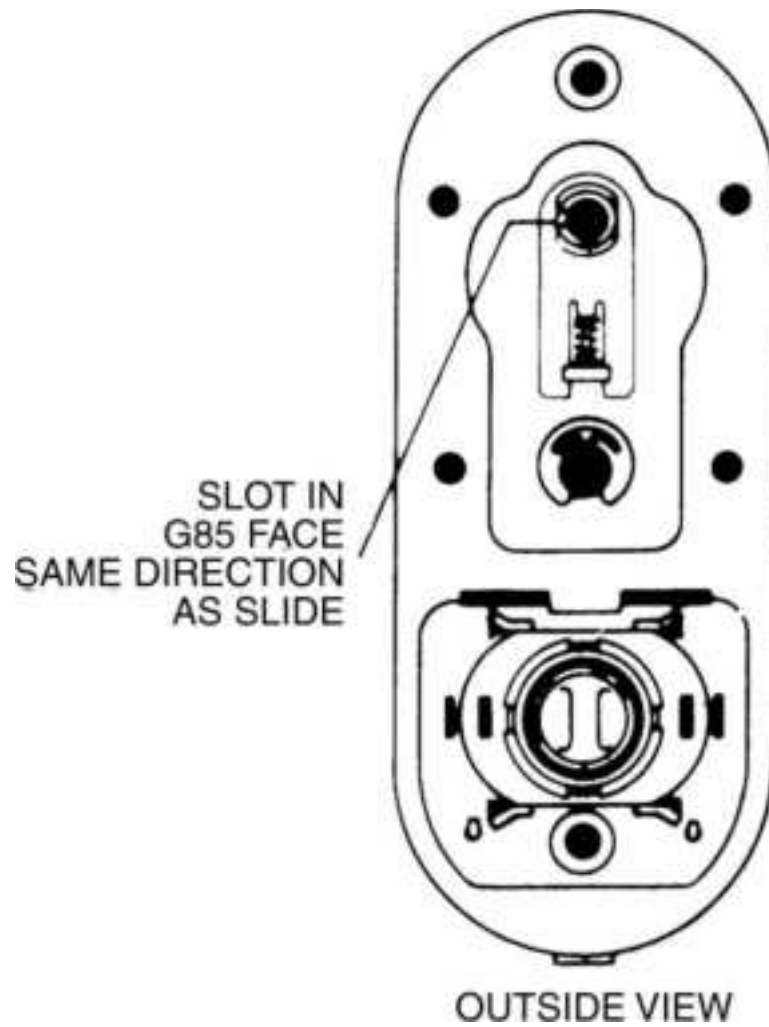

**Figure 13.89** Changing hand, Step 20.
20. Turn the slot in the G85 unit to face the same direction as the slide (Fig. 13.89 ).